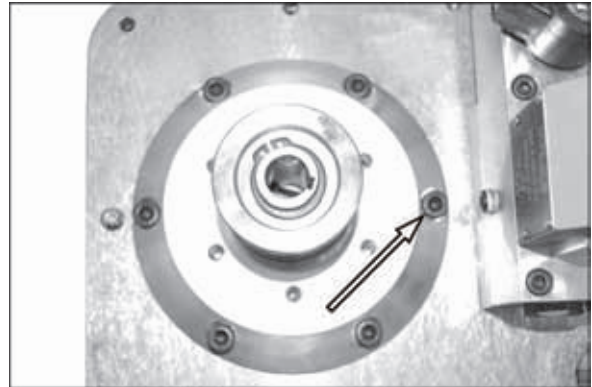

Figure 33.
2. See Figure 33. Remove the six adapter bolts and the adapter.